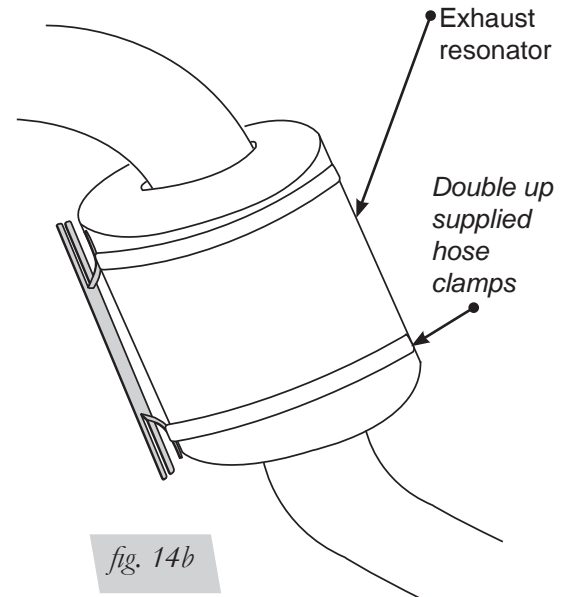

fig. 14b
*Some vehicles have large resonators in this area, it will be necessary to double up on the clamps to fit these models (fig. 14b).*